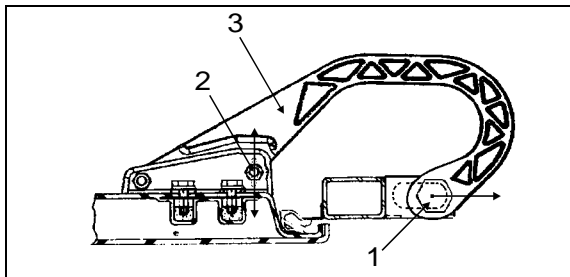

FIGURE 82: DOOR HINGE
- Loosen nut (1, Figure 82).
- Move part (3, Figure 82) as shown in figure for "LEFT or RIGHT" adjustment.
- Tighten nut (1, Figure 82).
- Loosen nut (2, Figure 82).